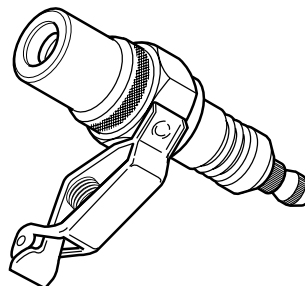

Figure 4-28. Spark Tester (Part No, HD-26792)
- See Figure 4-28. A SPARK TESTER (Part No. HD-26792) must be used to verify adequate secondary voltage (25,000 volts) at the spark plug.